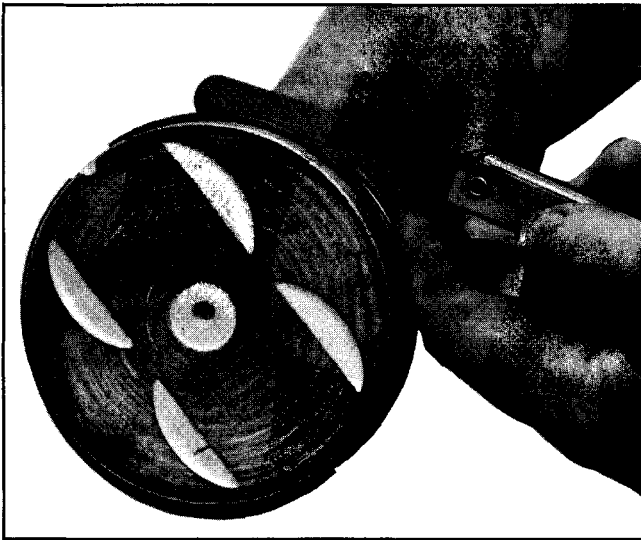

Fig. 6-164 Measuring Side Clearance of Ring in Groove
5. Measure side clearance of rings in ring groove as each ring is installed (Fig. 6-164). Clearance with new pistons and rings should be .0015"-.005" (all except 307 engine) or for 307 engine as follows: Top Ring - .0012" - .0027", Second Ring - .0012" - .0032", Oil Ring - .002" - .007".